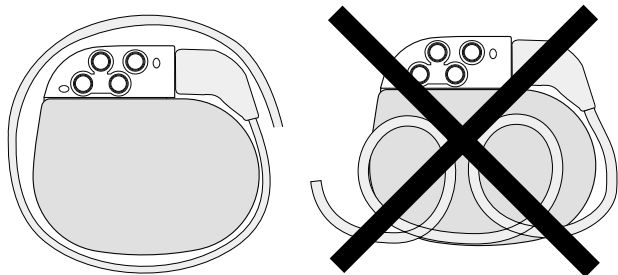

Figure 3. Wrap excess extension around the perimeter of the neurostimulator.
- Do not coil excess extension in front of the neurostimulator. Wrap excess extension around the perimeter (Figure 3) of the neurostimulator to minimize subcutaneous pocket depth, help minimize potential damage during neurostimulator replacement surgery, help minimize potential kinking of the extension, and minimize interference with telemetry. Excess extension should not exceed two wraps around the perimeter of the neurostimulator.